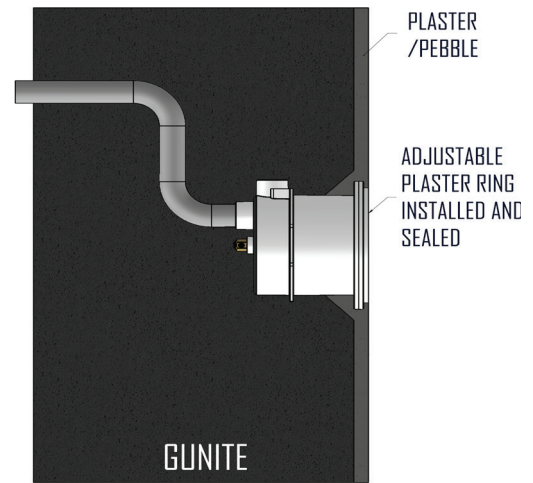

Figure 2
6. Before applying finish remove the gunite shield. Using PVC glue or construction adhesive secure the adjustable plaster ring with integrated water stop inside the Lite Star niche, ensure proper depth and alignment. Pool finish should be flush with the front face of the adjustable plaster ring (See Figure 2). Place plaster cap onto the adjustable plaster ring to avoid debris from entering while applying the finish.